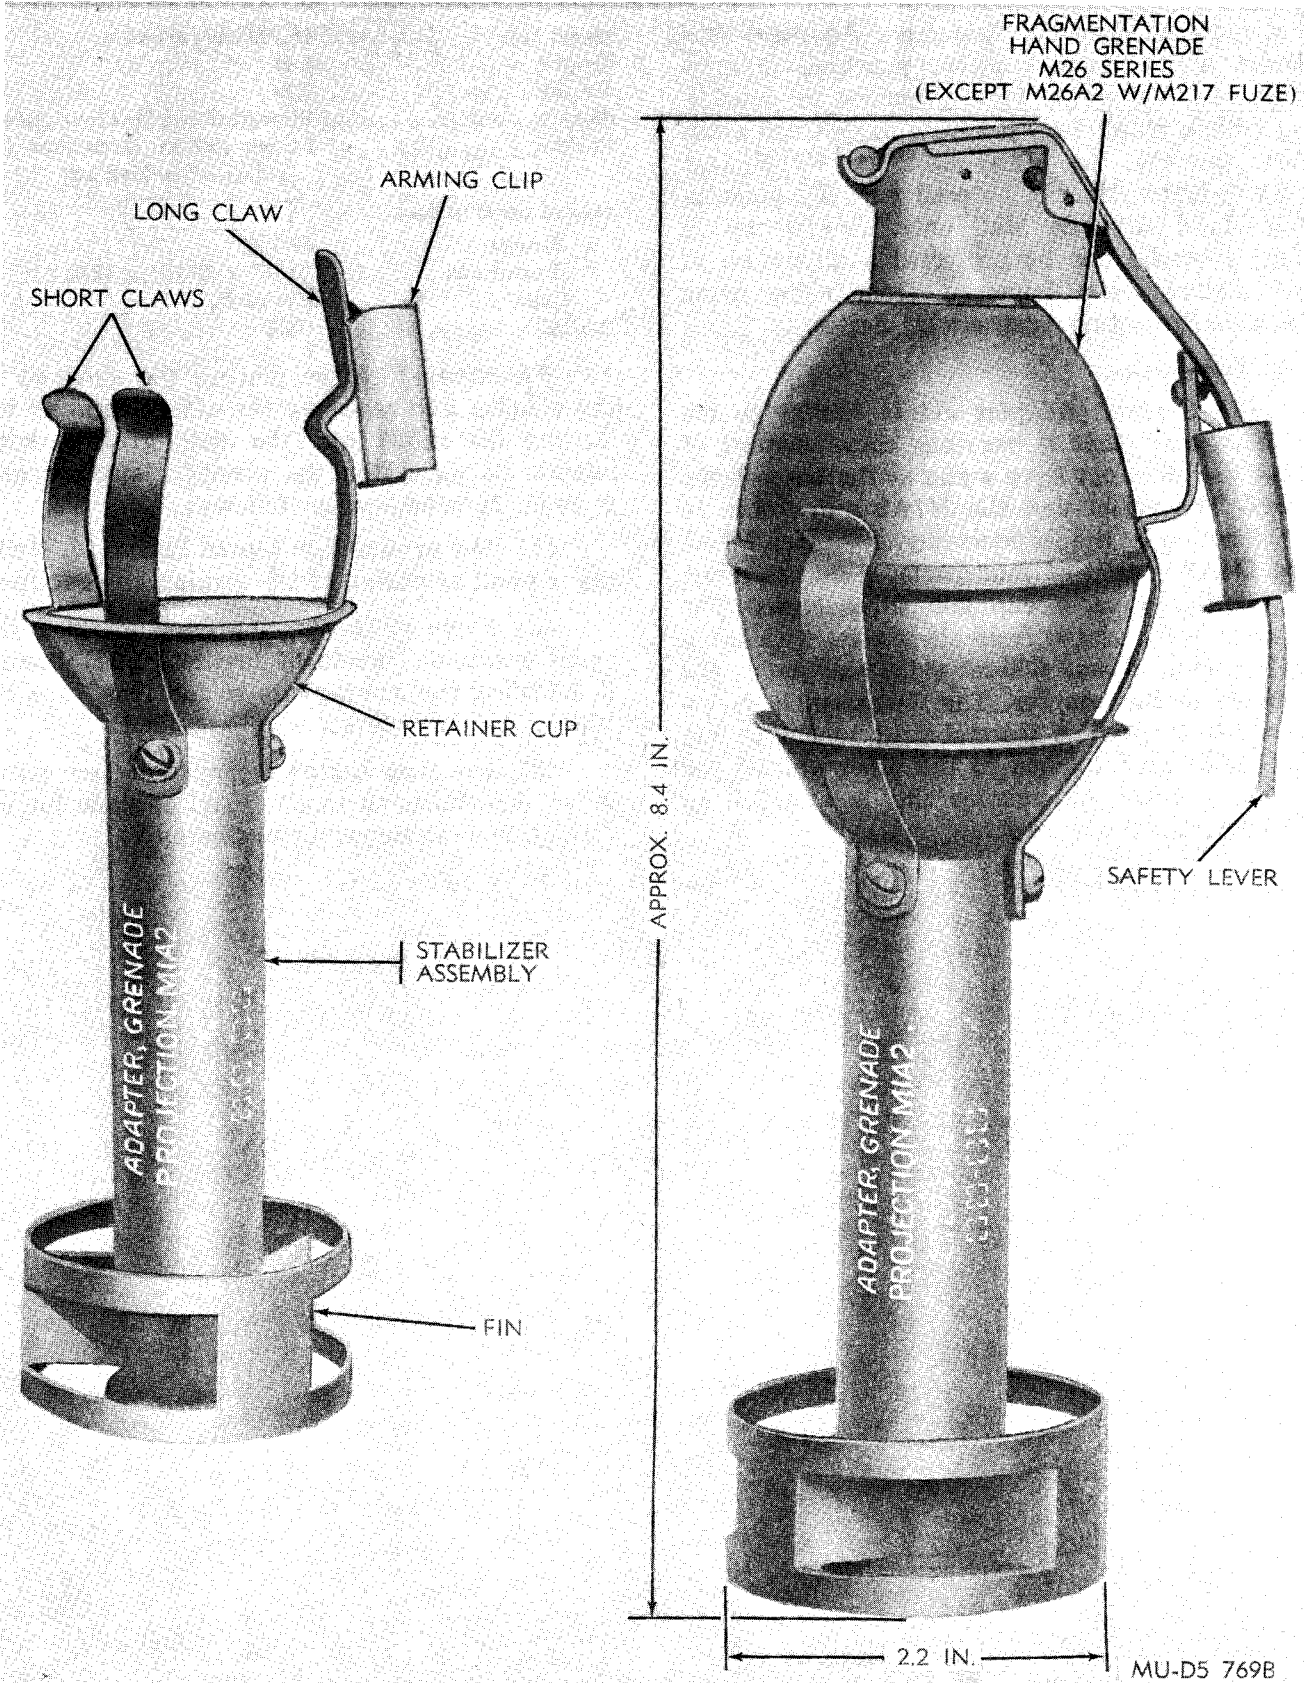

Figure 3-8. Grenade projection adapter M1A2 w/fragmentation hand grenade.
a. General. Grenade Projection Adapters M1-Series adapt fragmentation, practice, illuminating and WP smoke hand grenades for launching from a rifle. Three different models are available: the M1, the M1A1 and the M1A2 (fig. 3-8). Adapter M1 can be used with Fragmentation Hand Grenade Mk2 only. Fragmentation hand grenades can be projected a maximum of 160 meters when launched from rifles using Grenade Projection Adapters M1-Series.
(2) Data.